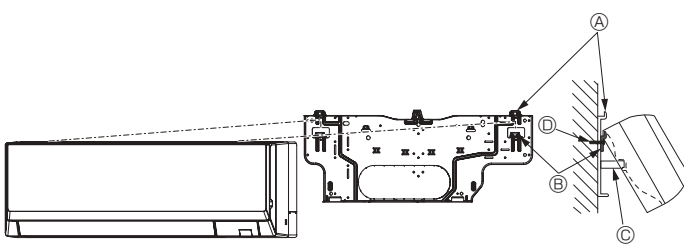

Fig. 3-14
- When the indoor unit cannot be hung and lifted up with the regular hook (the dimension of 2.1. Ⓢ (the clearance between the ceiling and the unit) is 75 mm, 2-15/16 in. or less), hang the unit on the lower hook for left piping. (Fig. 3-14)
#### (Fig. 3-14)